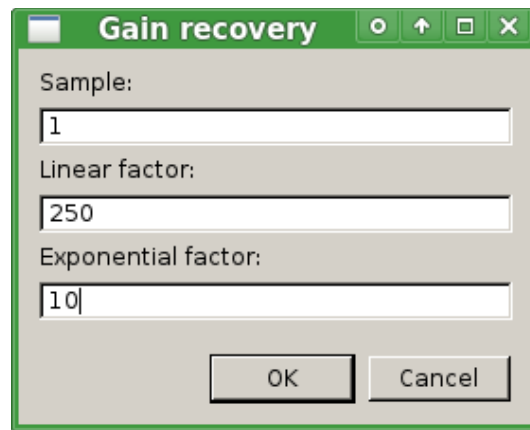

Figure 21. Manual gain settings.
**Gain recovery** is convenient to make up for the amplitude attenuation and the geometrical spreading. We can set a function, more or less like the “Time-Gain” filter of Måla Groundvision software, that combines a linear and an exponential factor: each sample since the initial one is multiplied by the equation  $p \cdot (t/s)^n + e^{q \cdot (t/s)^n}$ , where **p** is the linear factor, **q** is the exponential factor, **t** is the “time window” value in microseconds, **s** is the number of samples per trace and **n** is the number of samples filtered until that moment (figures 21 and 22).